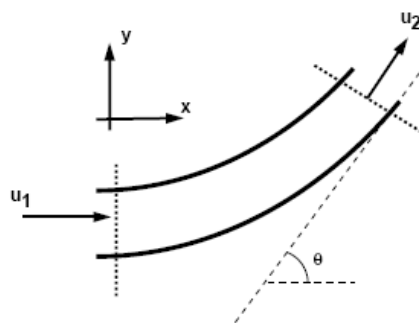

Figure 5
3. [a] A 600 mm diameter pipeline carries water under a head of 30 m with a velocity of 3 m/s. This water main is fitted with a horizontal bend which turns the axis of the pipeline through 75° (i.e. the internal angle at the bend is 105°) (refer Figure 5). Calculate the resultant force on the bend and its angle to the horizontal. ($\gamma_{\text{water}} = 9810\text{N/m}^3$)